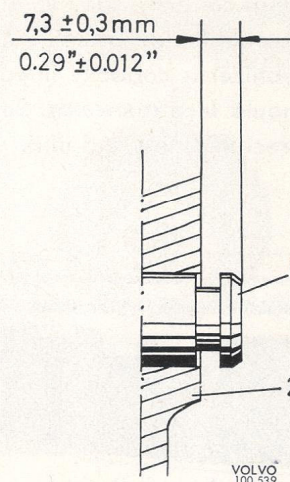

Fig. 35. Fitting the reverse shaft
Fit the reverse gear, spacer sleeves and reverse shaft. Ensure that the groove in the reverse shaft is turned correctly (early prod.). The late prod. reverse shaft with turned groove is fitted so that it projects 7.0—7.6 mm (0.276—0.300") outside the gearbox housing, see Fig. 35.
7.6 mm (0.276—0.300") outside the gearbox housing, see Fig. 35.